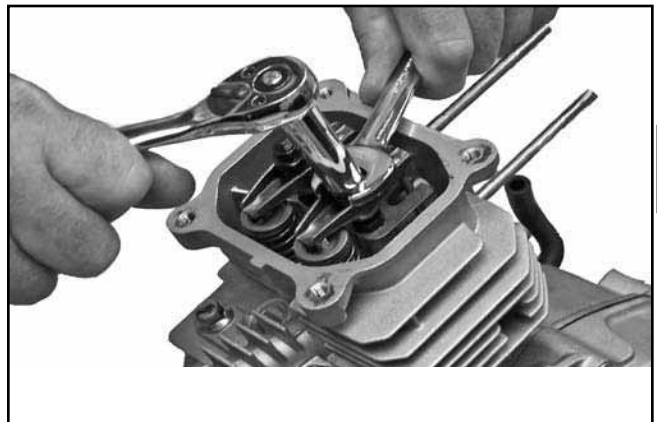

Figure 8-35. Removing Jam Nuts and Pivots.
1. Use a socket and wrench to remove the jam nuts and the rocker-arm pivots from the rocker studs. See Figure 8-35.